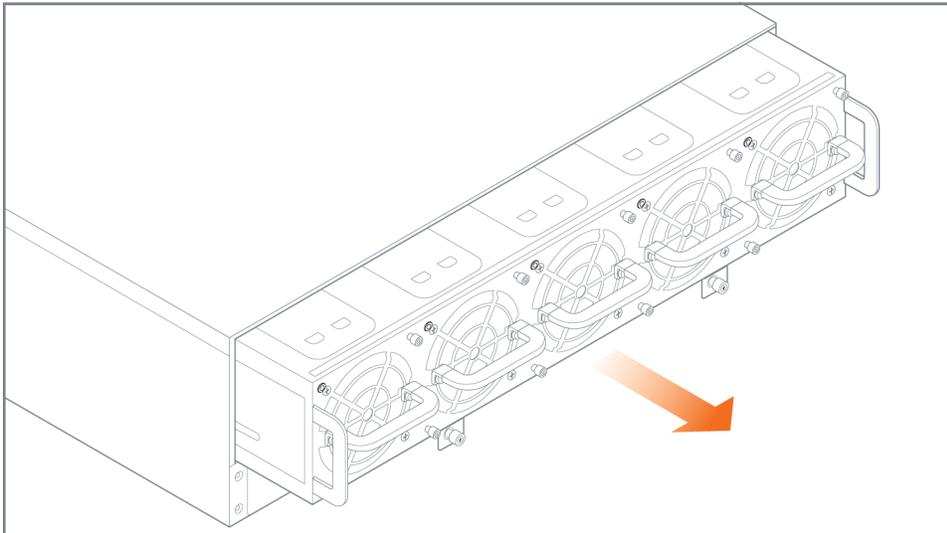

Figure 11: Fan Tray Removal
3. Pull the failed fan tray out of the slot and set it aside. Refer to Figure 11: Fan Tray Removal.